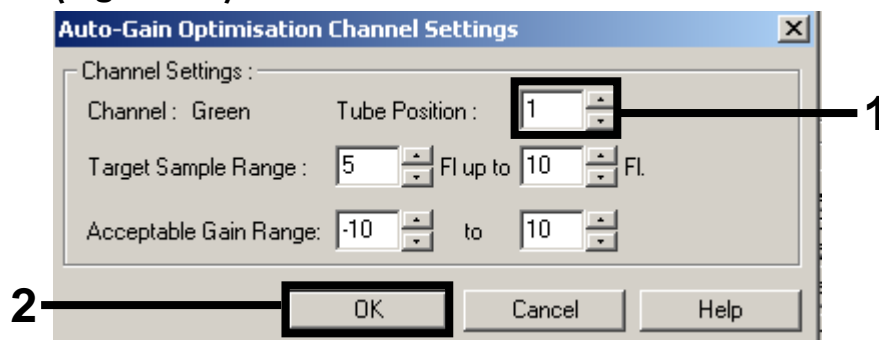

Figure 12. Setting the tube position.
10. Set the tube position for a tube for the first *artus* assay (e.g., CMV). Set the tube position for all fluorescence channels, and click "OK" (Figure 12).